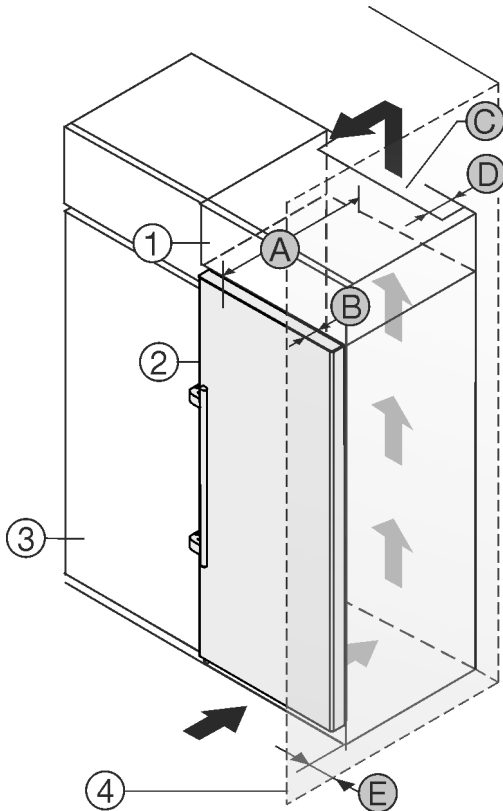

Fig. 2
You can place the appliance directly beside the kitchen cabinet Fig. 2 (3)\*.
There must be a ventilation shaft at the depth Fig. 2 (D) of the back of the top cupboard over the entire width of the top cupboard.\*
The ventilation cross-section Fig. 2 (C) must be maintained under the ceiling.\*
If the appliance is set up with the hinges next to a wall Fig. 2 (4), the distance between the appliance and the wall must be at least 57 mm. This is how far the handle protrudes when the door is open.\*
In order to be able to fully open the door, the appliance must protrude by the depth of the door Fig. 2 (B) from the front of the kitchen cabinet. The appliance may protrude further depending on the depth of the kitchen cabinets Fig. 2 (3) and whether wall spacers are used.\*